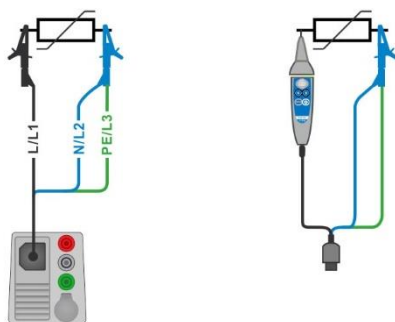
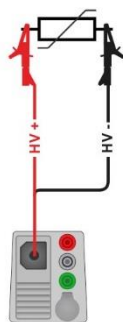

Figure 7.18: Connection of 3-wire test lead and Tip commander (Range: 1000 V)
Figure 7.19: Connection of 2.5 kV test lead (Range: 2500 V)
- › Connect test leads to object under test (see **Figure 7.18** and **Figure 7.19**).